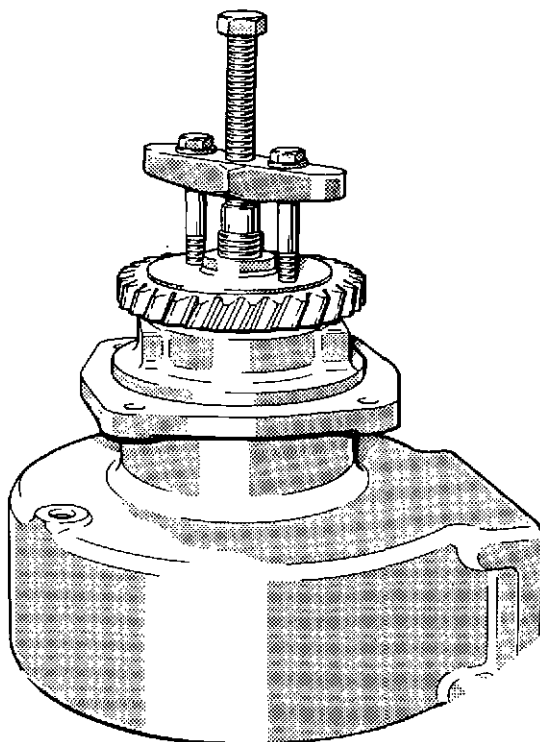

Fig. 5 Withdrawing the drive gear
- 17 Remove the drive gear securing nut and, using a suitable puller (fig. 5), remove the drive gear from the pump shaft.